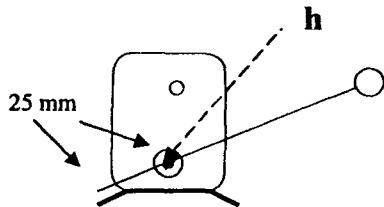

Fig 2
- Allow 25 mm to protrude out from the "h" point (opposite of the float arm) see Fig 2.